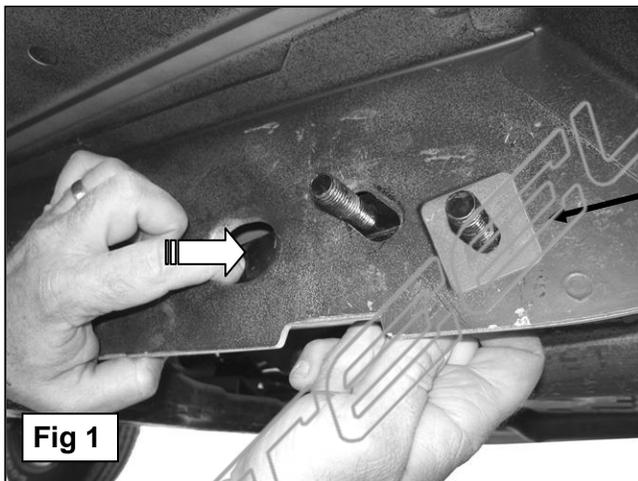

Fig 1
2. Select the passenger side front Mounting Bracket and Support Bracket. Locate the three factory holes in the outside of the frame rail towards the front of the vehicle, (one large round, one oval, and one small round hole). Insert (1) 1/2" x 1-3/4" Bolt Plate into and through the large round hole and out the small round hole, **(Figure 1)**. Thread (1) 1/2" Plastic Retainer onto the threaded end of the Bolt Plate until it is tight against the frame rail, **(Figures 1 & 2)**. The Plastic Retainer is designed to prevent the Bolt Plate from falling back into the frame rail and to aid in mounting the Bracket. Repeat this Step to install the 2nd Bolt Plate into the oval hole.